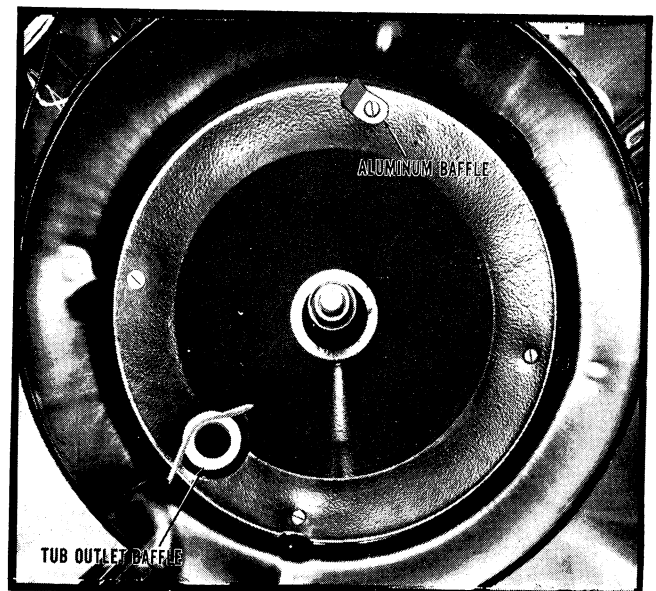

Figure 145
Baffles are provided in the tub bottom to create a turbulence and to prevent an air lock in the tub outlet hose. On earlier models, one aluminum baffle was located about 60 degrees from the drain outlet. Later this aluminum baffle was relocated approximately 160° from the drain and a polyethylene baffle was added to the drain opening, *Figure 145*.
- E. After the tub has been installed on the machine, be sure the baffles have been properly placed, *Figure 145*. Then test the tub for water leaks before replacing the basket.